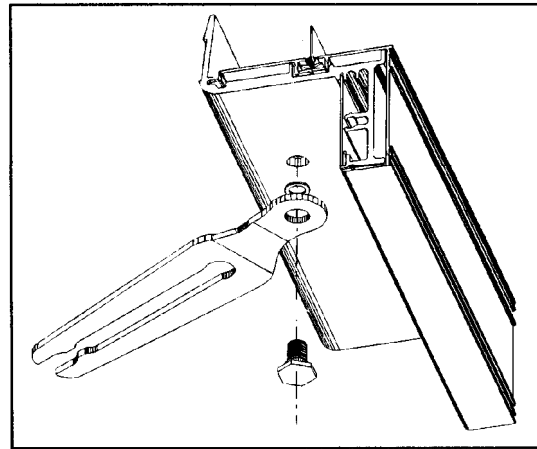

FIGURE 1
2. The assembly of the spring, washer, and shoulder screw is made at the factory. These parts are shown in **Figure 1**.